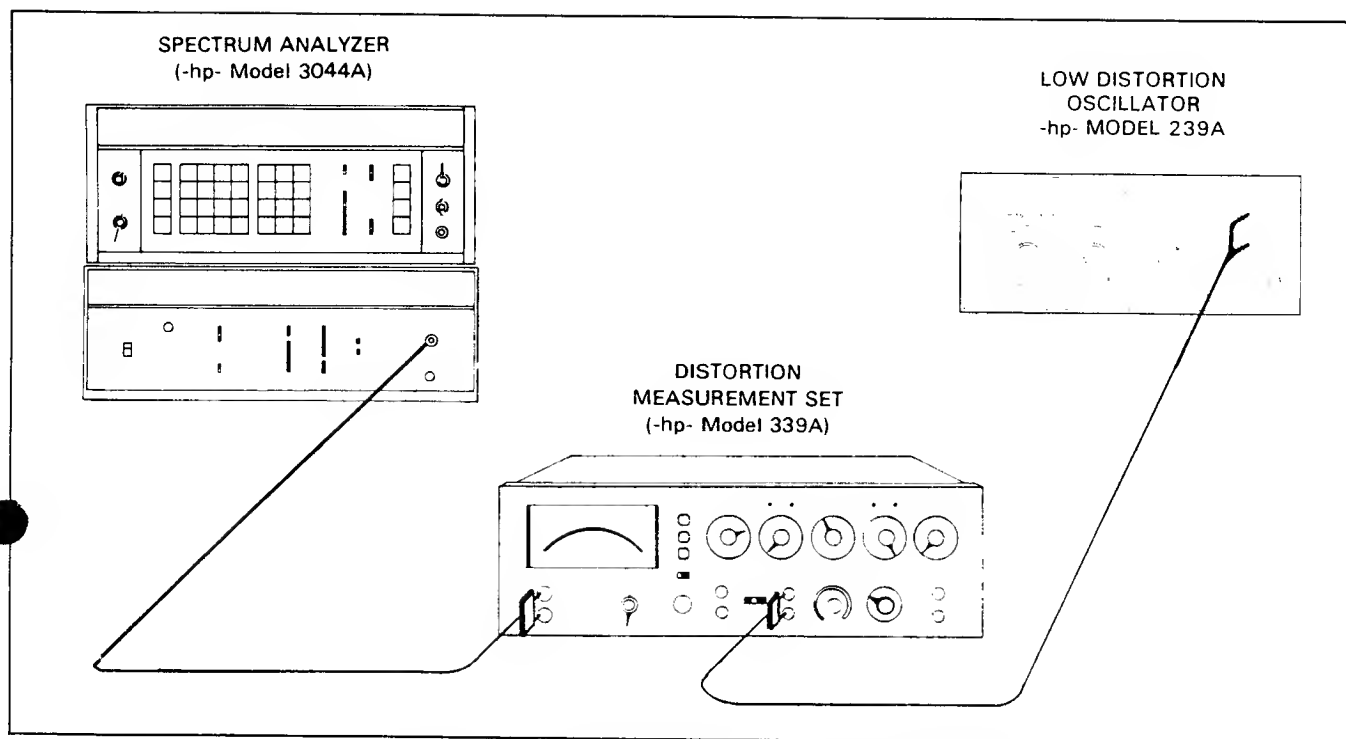

Figure 4-10. Fundamental Rejection and Induced Distortion Test.
b. Connect the equipment as shown in Figure 4-10.